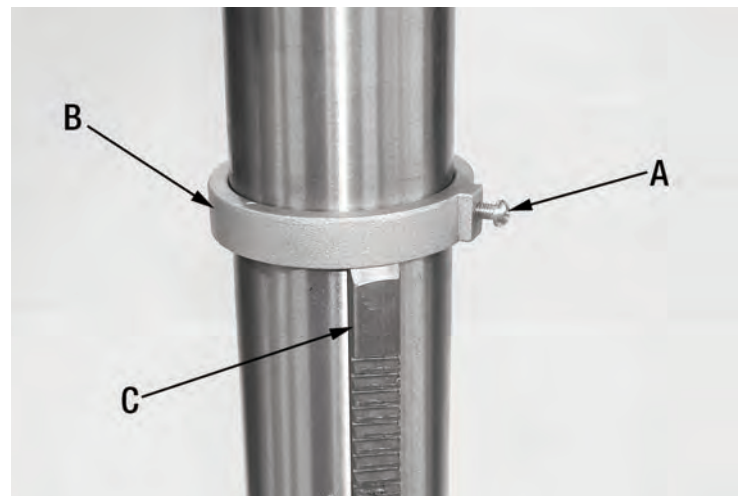

FIGURE 7
- 5) Loosen pan head screw (A) Fig.7 in column collar (B) using a Phillips screwdriver and then remove collar (B) and rack (C) from the column.
- 8) Replace column collar (B) Fig.7 and position it bevel side down over the rack (C). Tighten pan head screw (A) in collar. To let the rack slide when the table is swung to the left or right around the column, the collar must sit loosely over the rack and should not be angled on the column. Only tighten pan head screw enough to keep the collar in place, otherwise the collar may break due to excessive pressure.